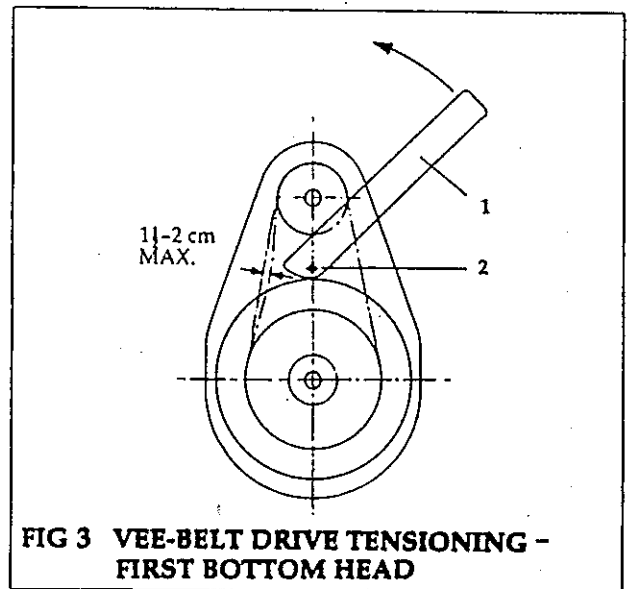

FIG 3 VEE-BELT DRIVE TENSIONING - FIRST BOTTOM HEAD
- 1st bottom head (Fig 3)
- b) Fit spanner (1) provided, to adjusting screw (2) located at motor bracket and turn in on anti-clockwise direction to tension the belt drive.
- c) Tighten motor clamp bolts. (1)
Outboard Bearing Change 1st & 2nd Bottom Heads (Fig.3)